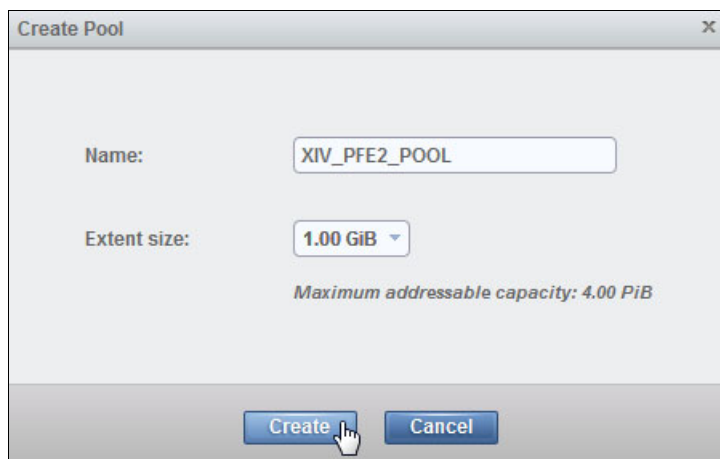

Figure 2-17 Creating an MDisk group or pool by using the XIV MDisks
3. Create a pool (or MDisk group) on the SAN Volume Controller by clicking **Create Pool**. Figure 2-17 shows the Create Pool window.